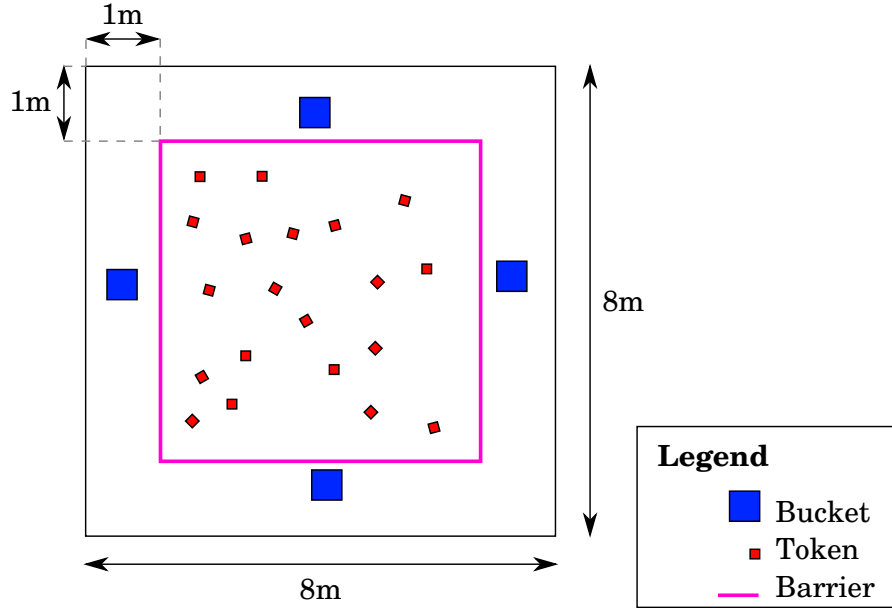

Figure 3: A bird's-eye view of the arena.
3.3.1 The match arena floor, overall, is an $8m \times 8m$ square, as shown in figure 3. The tolerance of these two dimensions is $\pm 0.25m$.